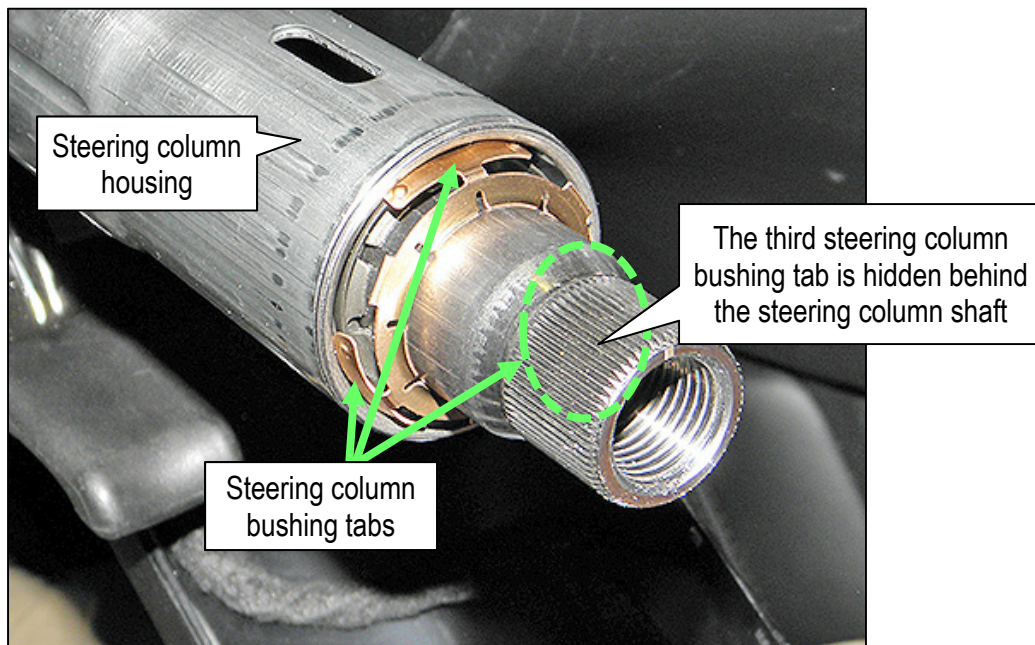

Figure 18
20. Continue to slide the steering column bushing down until the three (3) steering column bushing tabs are next to the steering column housing.
NOTE: Only two of the three (3) steering column bushing tabs are shown in Figure 18. The third steering column bushing tab is hidden behind the steering column shaft.